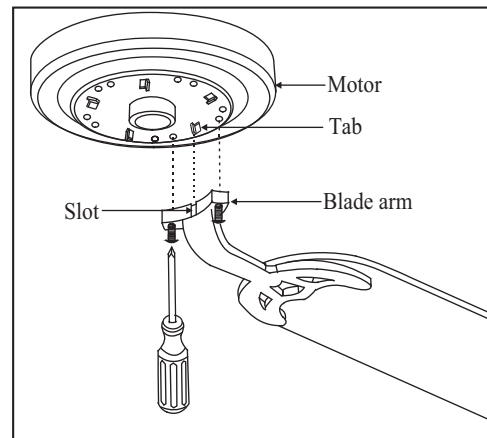

Figure 9
3. Fasten the blade assemblies to the motor housing by lining up the slots of the blade arms with the tabs on the motor housing, then tighten the two screws and washers already installed in the blade arms. (Fig. 9)